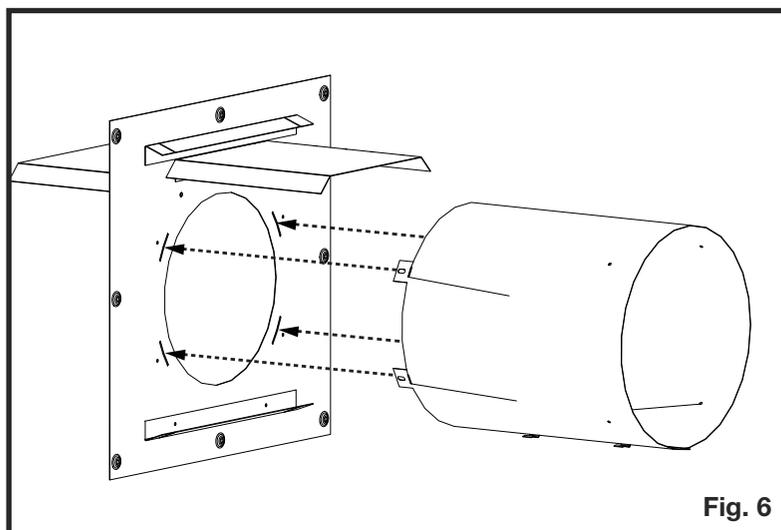

Fig. 6
6. Insert the vent sleeve tabs into the firestop spacer slots then bend the tabs over to secure to the firestop spacer along with 4 supplied fasteners (**Figure 6**).